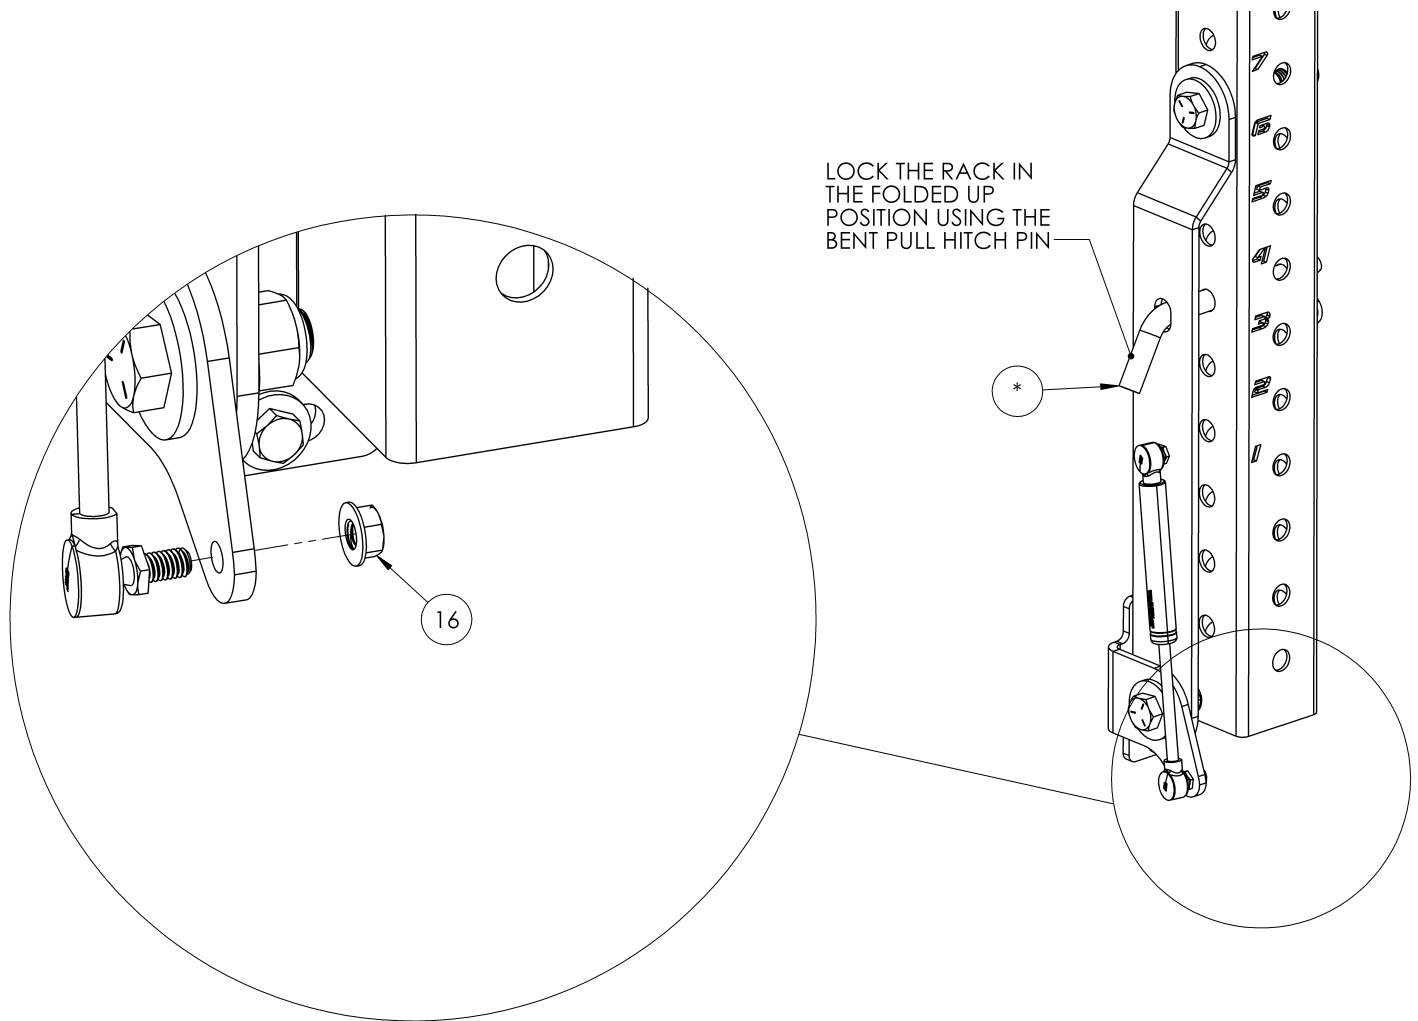

Figure 11: Attaching the Gas Shocks
2. Use the included bent hitch pin (12) to lock the rack in the up position (**Figure 11**).
4. Using a 1/2" open-ended wrench to keep the stud from spinning, use the 1/2" wrench to install the flange nut (16) and tighten (**Figure 11**).